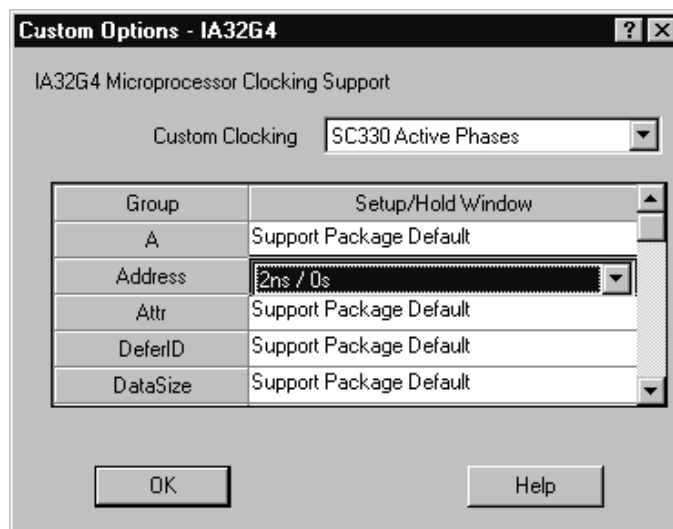

Figure 1–3: Entering the adjusted setup time
17. In the Custom Cloning options menu, select SC330 Active Phase or SC330 Clock-by-Clock Demux. You will see a list of channel groups. Find the channel group you adjusted and enter that adjusted setup time; click OK (see Figure 1–3).